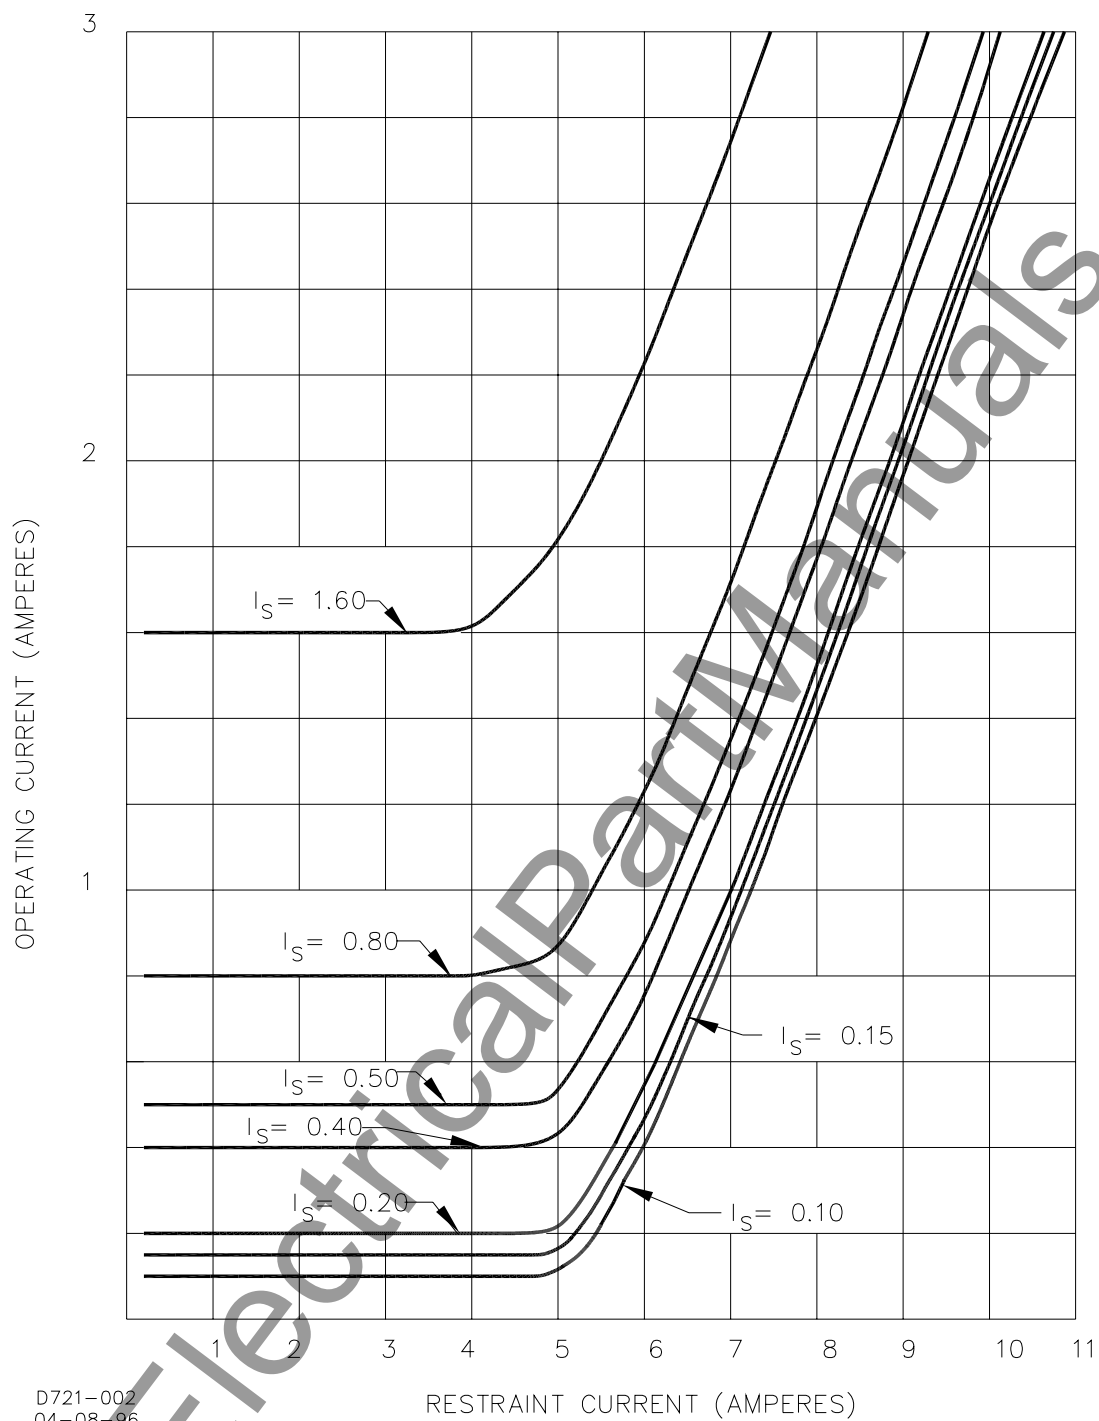

Figure 5-3. Operating Characteristics, Relay Style x1x-xxx-xxxxx
- Repeat steps 2 through 6 for the other sensitivity switch settings. If desired, a sufficient number of trip points may be taken to verify any or all of the performance curves shown in Figure 5-3.
See Figures 5-3 through 5-6 for the operating characteristic curves and trip response timing curve.
The following recommendations are provided for selecting the current sensitivity switch setting. Figures 5-3 and 5-4 show how this setting corresponds to the operating current pickup over the restraint current range.
During normal operation, the pickup on the flat part of the operating characteristic (see Figures 5-3 and 5-4) must exceed the difference in steady-state CT errors. The relay must also override the error differences in the presence of dc components developed by external faults or switching. Currents will be offset during external faults on generator applications, during motor starting, and during switching of shunt reactors.